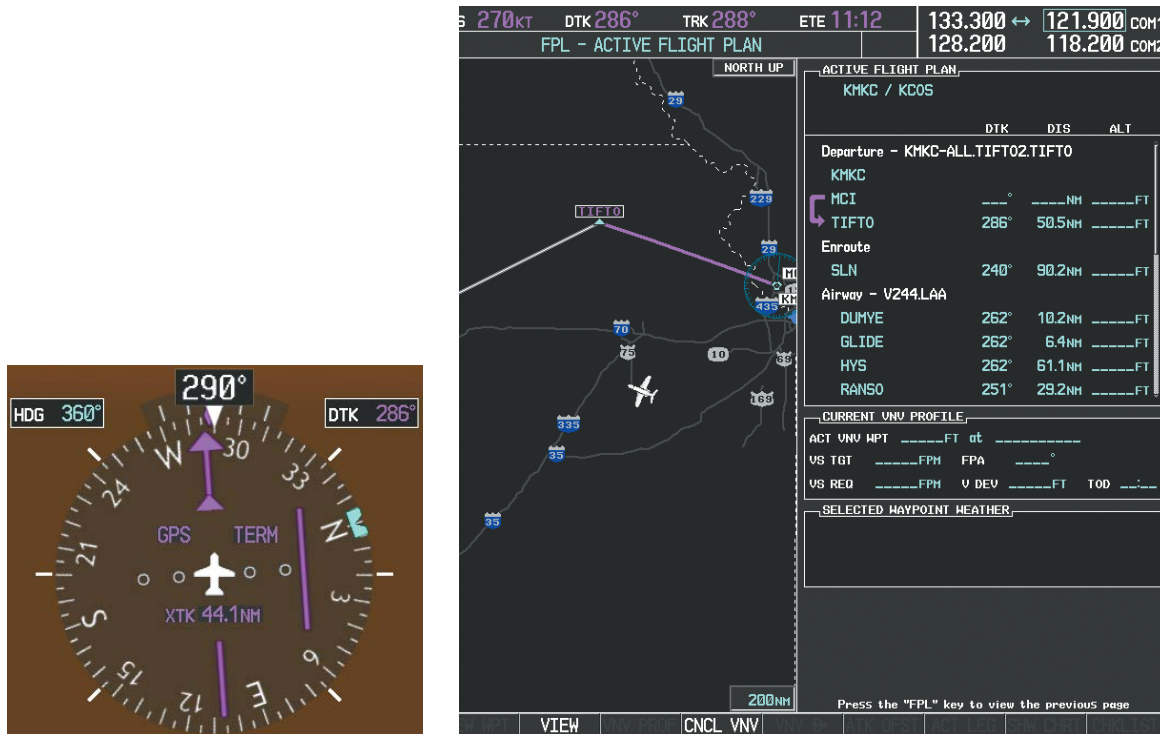

Figure 5-114 Assigned Heading of 290°
- 3) ATC now assigns routing to join V4. A heading of 290° is assigned to intercept V4. The aircraft turns to heading 290° as seen in Figure 5-114.